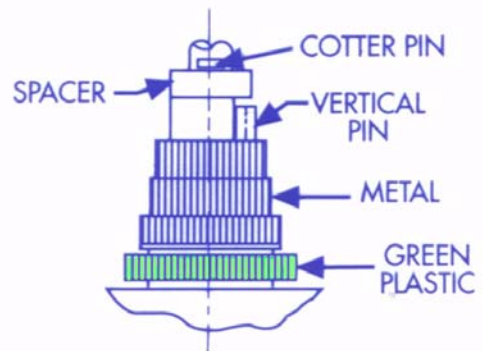

FIGURE 4
- 4) Dollar drive shaft vertical pin stays in place (see Figure 4).
- 4) Remove dollar drive shaft vertical pin (see Figure 4 on page 3 and photos page 4)
- 4) Remove dollar drive shaft vertical pin (see Figure 4 on page 3 and photos page 4).
- 4) Dollar drive shaft vertical pin stays in place (see Figure 4 on-page 3 & photos page 4)